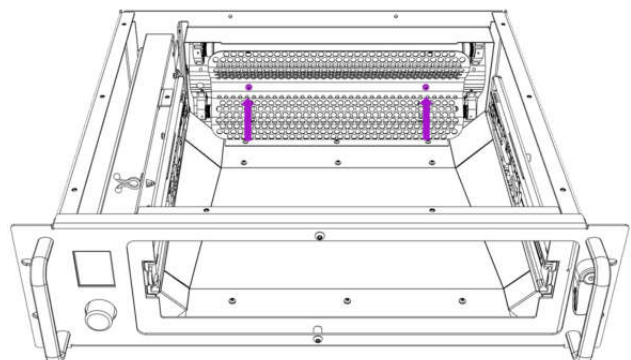

Fig. 19
- Re-attach UV-C lamp protection panel and re-fit the screws (Fig. 19).